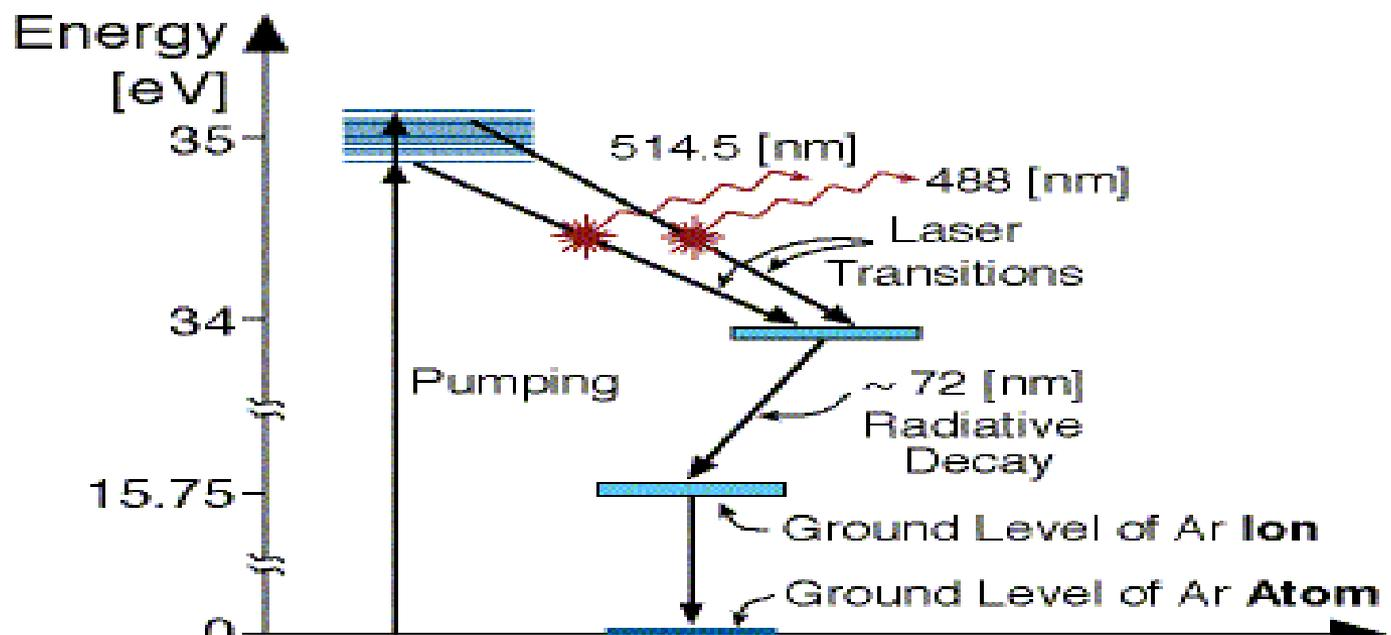

Figure 6.4: Energy Level Diagram of Ion Argon Ion Laser.
•A schematic diagram of the energy levels of the Argon Ion laser is shown in figure 6.4.
We see from the diagram in figure 6.4 that the lasing energy levels belong to the **Argon ion**, so **the atoms of the gas inside the tube need to be ionized first.**